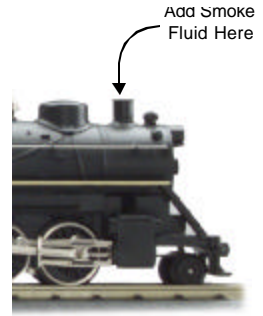

Figure 5. Adding Smoke Fluid to the Engine
- You should prime the operating smoke unit with smoke fluid before operating. Add 15-20 drops of smoke fluid through the smokestack, then gently blow into the stack to eliminate any air bubbles in the fluid. See Fig. 5.
- When preparing to run this engine, add 15-20 drops of smoke fluid through the smokestack (see Fig. 5). We recommend M.T.H. ProtoSmoke, Seuthe, LGB, or LVTS fluids (a small pipette of ProtoSmoke fluid is included). Do not overfill the unit or the fluid may leak out and coat the interior engine components.